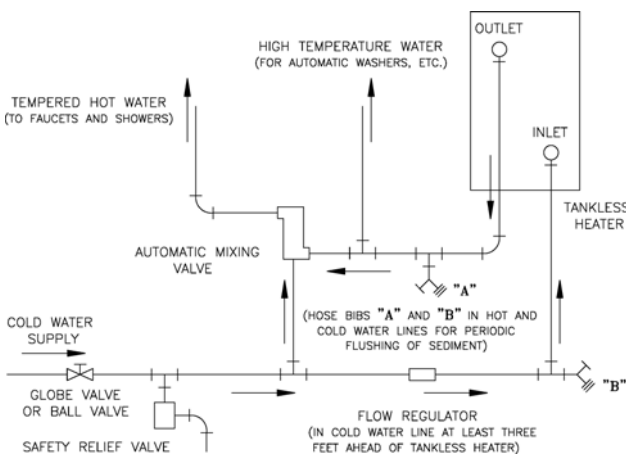

Figure 36: Schematic Tankless Heater Piping
N. CONNECT TANKLESS HEATER PIPING as shown in Figure 36. See Table IV for Tankless Heater Ratings.
If flow through the heater is greater than its rating, the supply of adequate hot water may not be able to keep up with the demand. For this reason a FLOW REGULATOR matching the heater rating should be installed in the cold water line to the heater. Refer to Figure 36 for piping recommendations. Locate the flow regulator below the inlet (cold water side) of the heater and a minimum of 36” away from the inlet so that the regulator is not subjected to excess temperatures during “off” periods when it is possible for heat to be conducted back through the supply line. The flow regulator will limit the flow of supply water regardless of inlet pressure variations ranging from 20 to 125 psi.
Refer to Figure 36 for piping recommendations. Adjust and maintain the mixing valve in accordance with manufacturers instructions.
All water contains some sediment which settles on the inside of the coil. Consequently, the heater should be periodically backwashed. This is accomplished by installing hose bibs as illustrated in Figure 36 and allowing water at city pressure to run into hose bib A, through the heater, and out hose bib B until the discharge is clear. The tees in which the hose bibs are located should be the same size as heater connections to minimize pressure drop.